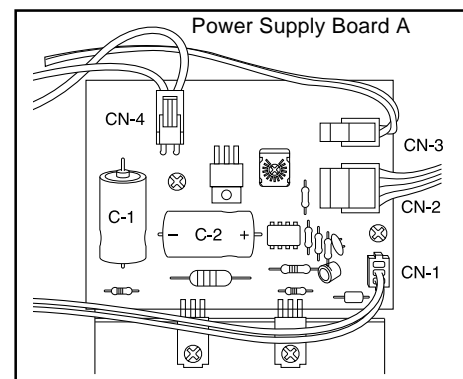

Fig. 3
3. Adjust the potentiometer (as shown in Figs. 3 and 4) on the power supply board with a blade-head screwdriver so that the coil current will be the value indicated on the workload unit solenoid coil. (A clockwise turn will increase the current, while a counter-clockwise turn will reduce the current.)